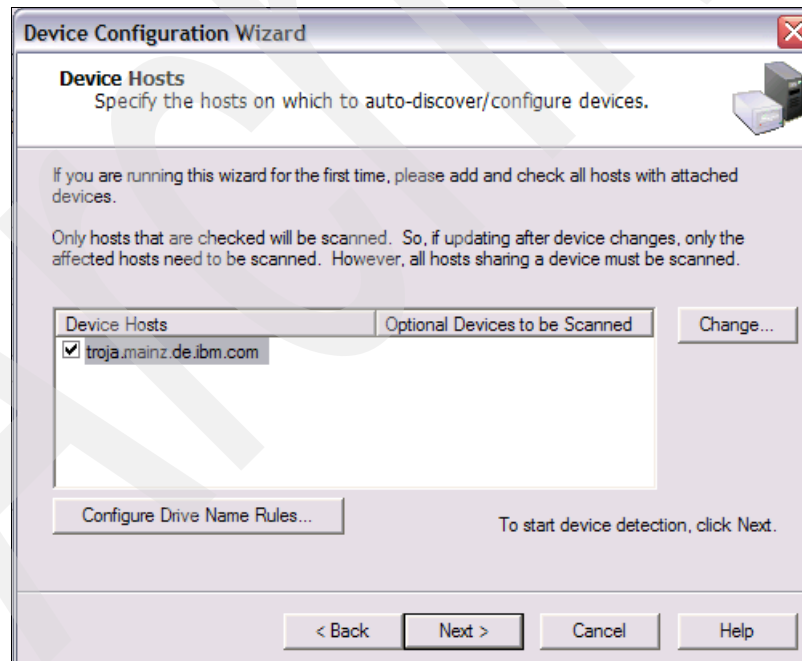

Figure 10-10 Device configuration: Media Manager selection
2. Next, we select the media server where the library and drives are connected. In our example we just have one Media Server. Our Server is called *troja.mainz.de.ibm.com* and therefore we select this server, as shown in Figure 10-10.